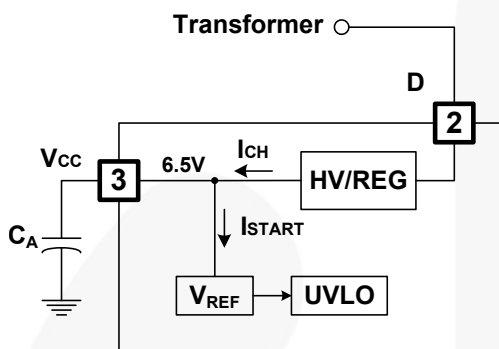
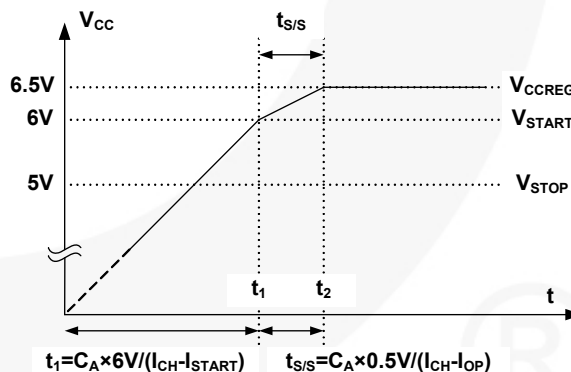

Figure 15. Startup Block
Figure 20. Soft-Start Function
1. Startup and V_{CC} Regulation: At startup, an internal high-voltage current source supplies the internal bias and charges the external capacitor (C_A) connected to the V_{CC} pin, as illustrated in Figure 15. An internal high-voltage regulator (HV/REG) located between the D and V_{CC} pins regulates the V_{CC} to be 6.5V and supplies operating current. Therefore, FSQ500L needs no auxiliary bias winding.
4. Soft-Start: The soft-start time is tuned by an external V_{CC} capacitor (C_A), which increases PWM comparator non-inverting input voltage together with the senseFET current slowly after it starts up. Before V_{CC} reaches V_{START} , C_A is charged by the current $I_{CH} - I_{START}$, where I_{CH} and I_{START} are described in Figure 15. After V_{CC} reaches V_{START} , all internal blocks are activated, so that the current consuming inside IC becomes I_{OP} . Therefore, C_A is charged by the current $I_{CH} - I_{OP}$, which makes the increasing slope of V_{CC} become sluggish. V_{CC} is shifted by 6.0V negatively (it is performed in soft-start block in Figure 2), and then $V_{CC} - 6.0V$ is an input of one of the input terminals of the PWM comparator. The drain current follows $V_{CC} - 6.0V$ instead of the V_{FB}^* because of the low-dominant feature of the PWM comparator. The soft-start time can be made long or short by selecting C_A , as described in Figure 20. During $t_{S/S}$, I_{DELAY} is disabled to avoid unwanted OLP. Typically, $t_{S/S}$ is around 4.6ms with 27 μ F of C_A .